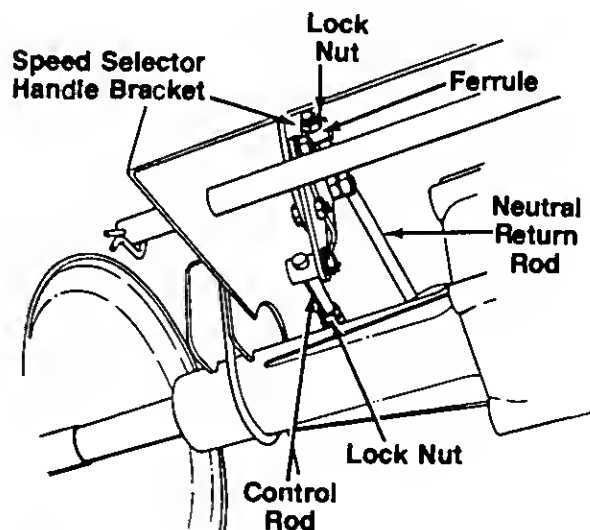

FIGURE 14.
To adjust: (See figure 14)
2. Loosen the lock nut (left hand thread) on the end of the control rod. See figure 14.